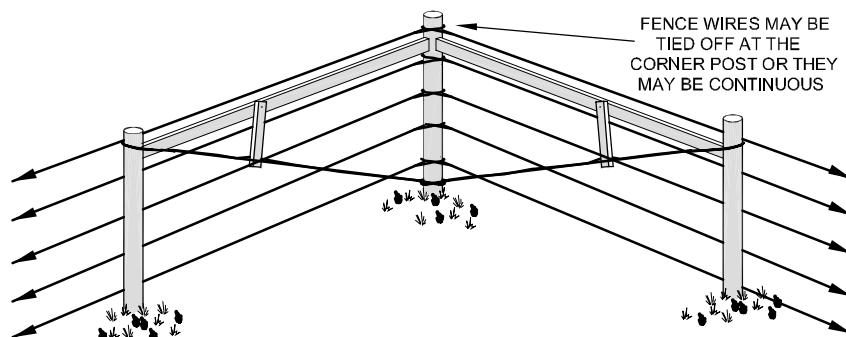

Figure 14 Shared-Post Brace at a Corner (for changes greater then 60°)
- for 60° to 90° corners use a standard shared-post corner brace as in Figure 14
For changes of fence direction from 60° to 90°, a normal shared-post corner will be effective (Figure 14, below). This brace can be used at a tie off corner or used between tie points with the fence wires continuous around the brace (in this case special stapling techniques are used to reduce wire-to-post friction around the corner post ensuring flexibility of the wires when loaded; refer to Factsheet 307.100-2).
For changes of direction greater than 60° use the brace in Figure 14, previous page.